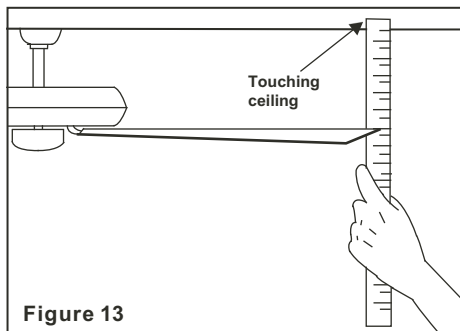

Figure 13
2. Most fan wobbling problems are caused when blade levels are unequal. Check this level by selecting a point on the ceiling above the tip of one of the blades. Measure this distance as shown in Figure 13. Rotate the fan until the next blade is positioned for measurement. Repeat for each blade. The distance deviation should be equal within $1/8$ ".